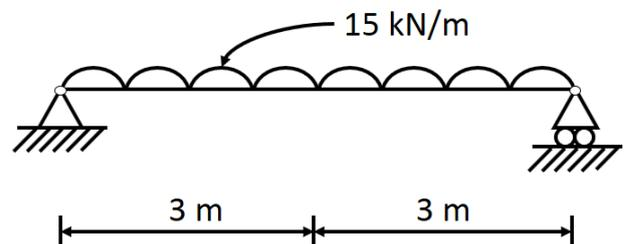

Fig. 3
- Q.5** (a) Write the slope deflection equation for the left end of the beam shown in fig.3. **03**